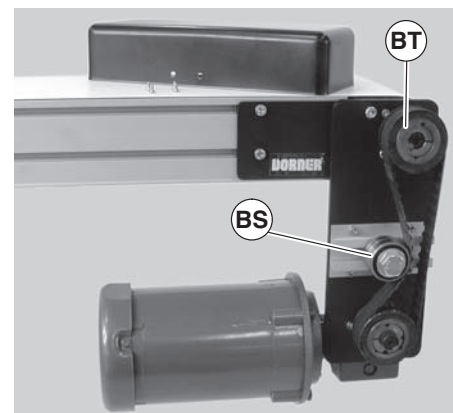
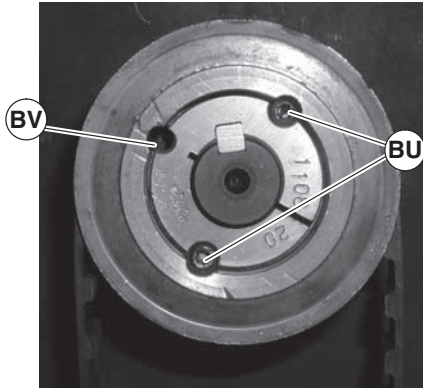

Figure 61
Figure 62
- Loosen tensioner (Figure 61, item BS).
- d. Remove taper-lock screws (Figure 62, item BU) on the driven pulley (Figure 61, item BT). Insert one (1) of taper lock screws (Figure 62, item BU) in remaining hole (BV). Tighten screw (BU) until pulley is loose. Remove pulley, taper hub assembly and timing belt.